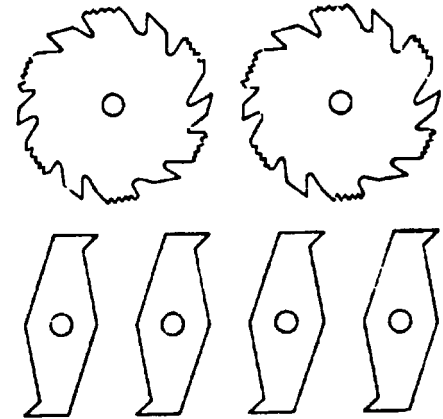
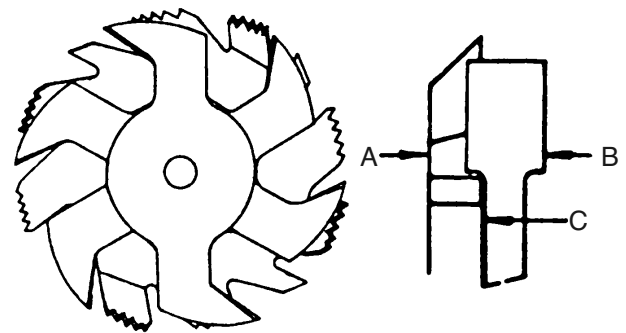

FIGURE 28
FIGURE 29
Dadoing is cutting a rabbet or a wide groove into the work. Most dado head sets are made up of two outside blades and four or five inside cutters, as shown in Fig. 28. Various combination of blades and cutters are used to cut grooves from 1/8" to 13/16" for use in shelving, making joints, tenoning, grooving, etc. The cutters are heavily swaged and must be arranged so that this heavy portion falls in the gullet of the outside blades, as shown in Fig. 29. The saw and cutter overlap is shown in Fig.29 (A) being the outside blade, (B) and inside cutter, and (C) a paper washer which can be used as needed to control the exact width of groove. A 1/4" groove is cut by using the two outside blades. The teeth of the blades should be positioned so that the raker on one saw is beside the cutting teeth on the other saw.